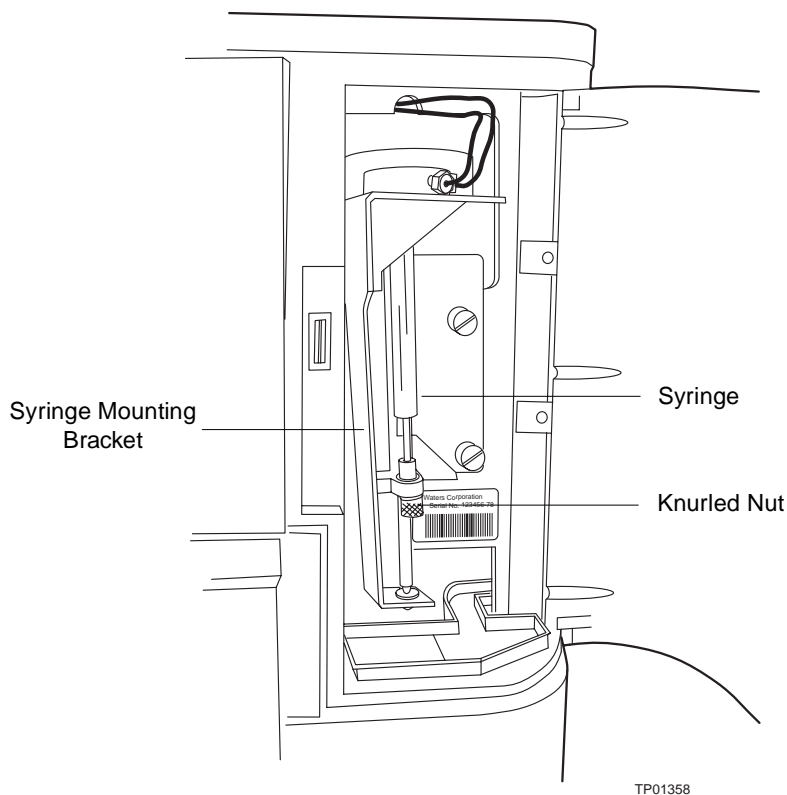

Figure 7-10 Syringe Assembly Components
Syringe	Draws sample from the sample vial or well into the sample loop (see Figure 7-10).
2. Remove the knurled nut that holds the syringe barrel to the syringe mounting bracket (Figure 7-10).